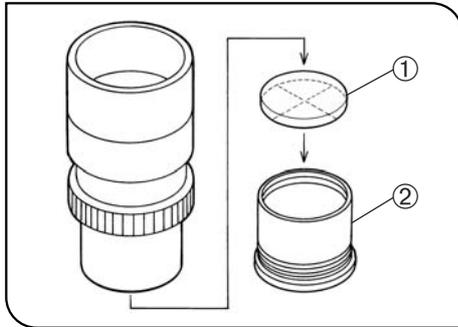

Fig. 25
4 Using the Eyepiece Micrometer Disk (Fig. 25)
Following Fig. 25, turn the built-in micrometer-mounting frame ② counter-clockwise to remove it from the eyepiece and place a micrometer disk. Screw the micrometer mounting frame back into the eyepiece sleeve.